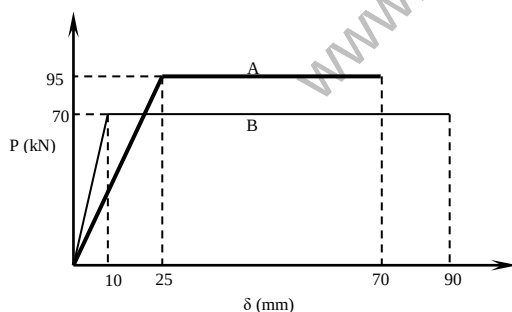

Fig.1
- C** Force deformation curve of two building is shown in **Fig.1**, calculate (i) Stiffness of building A and B (ii) Ductility factor of building A and B (iii) Energy absorption capacity of building A and B (iv) Maximum load capacity of building A. 7